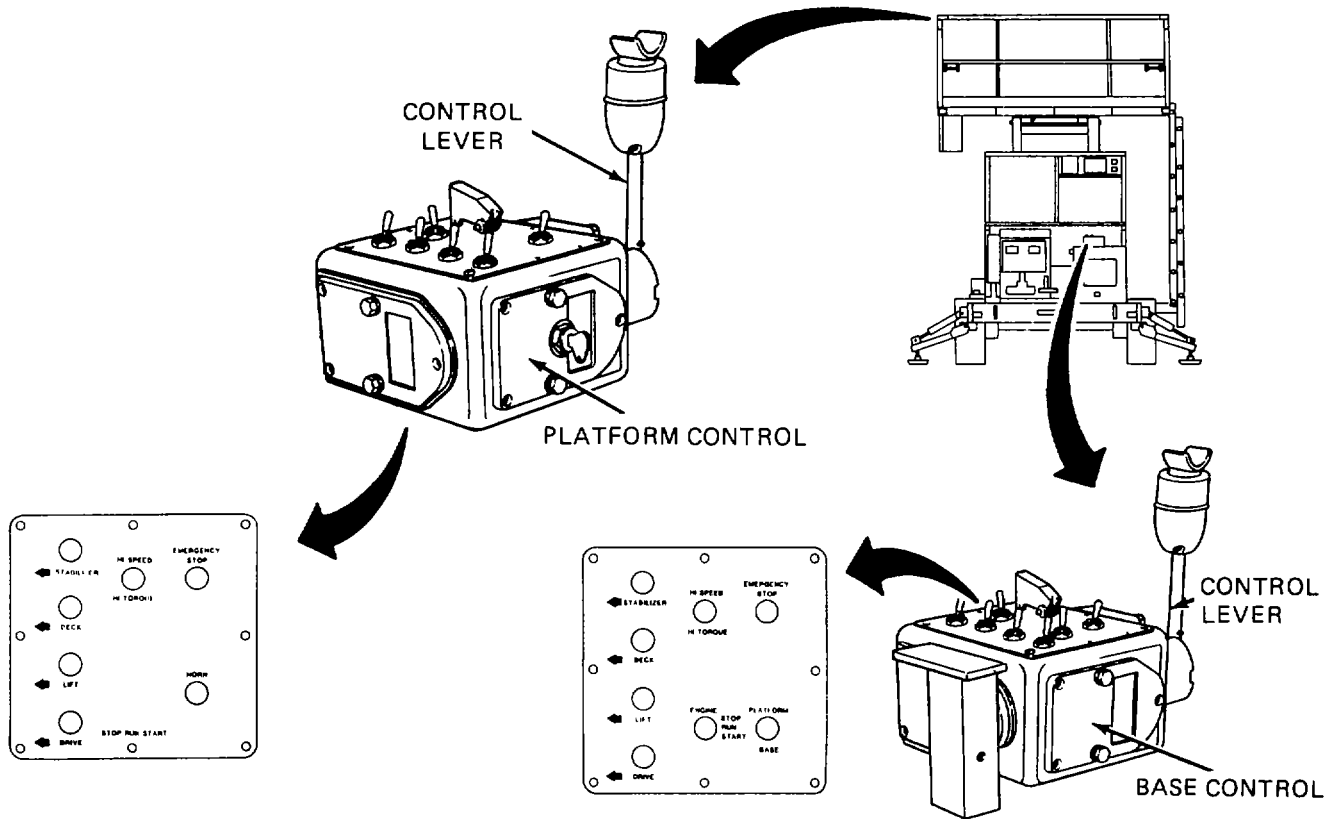

Figure 3-18. Control Boxes.
- a. Inspect outside of control boxes (Figure 3-18) for obvious damage.